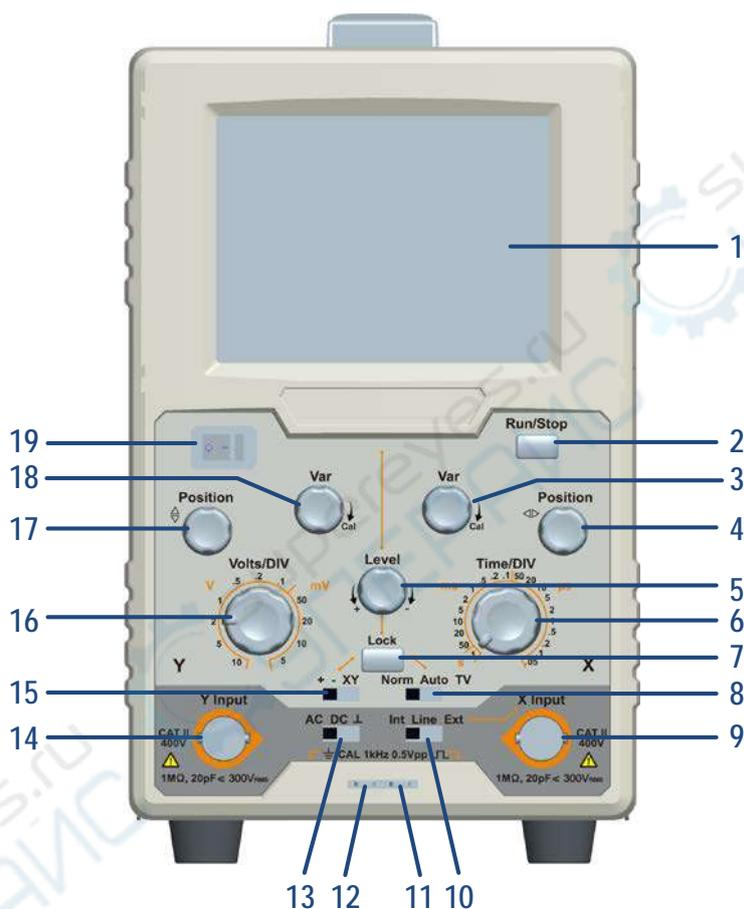

Figure 3-1 Front panel
2. Connect the probe BNC connector to the Y Input terminal. Connect the probe tip to the calibration signal on the front panel (see 11 of Figure 3-1 Front panel). Connect the reference wire clamp to the ground wire connector of the calibration signal (see 12 of Figure 3-1 Front panel).